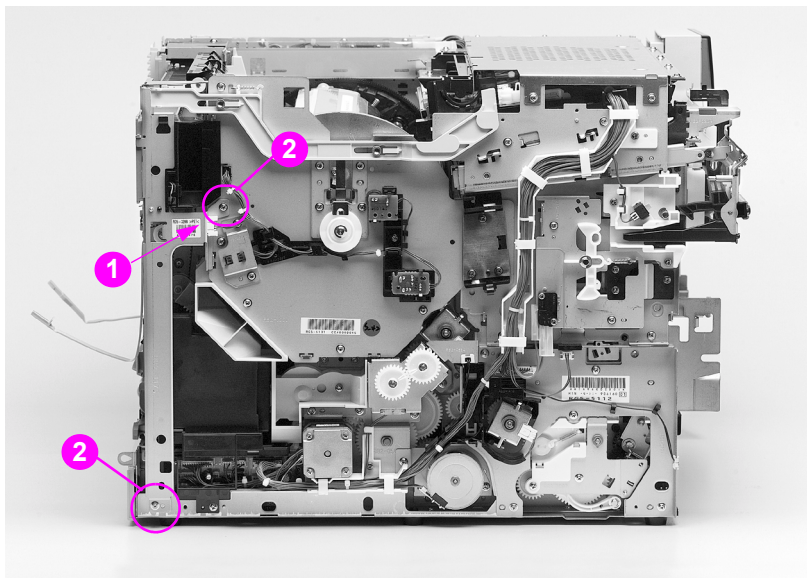

Figure 6-59 Left side fan removal and replacement (1 of 3)
- 4 Disconnect the cable shown in callout 1, Figure 6-59.
- 5 Remove the three screws from the left rear fan shield shown in Figures 6-59 and 6-60 (callout 2) and remove the fan shield.